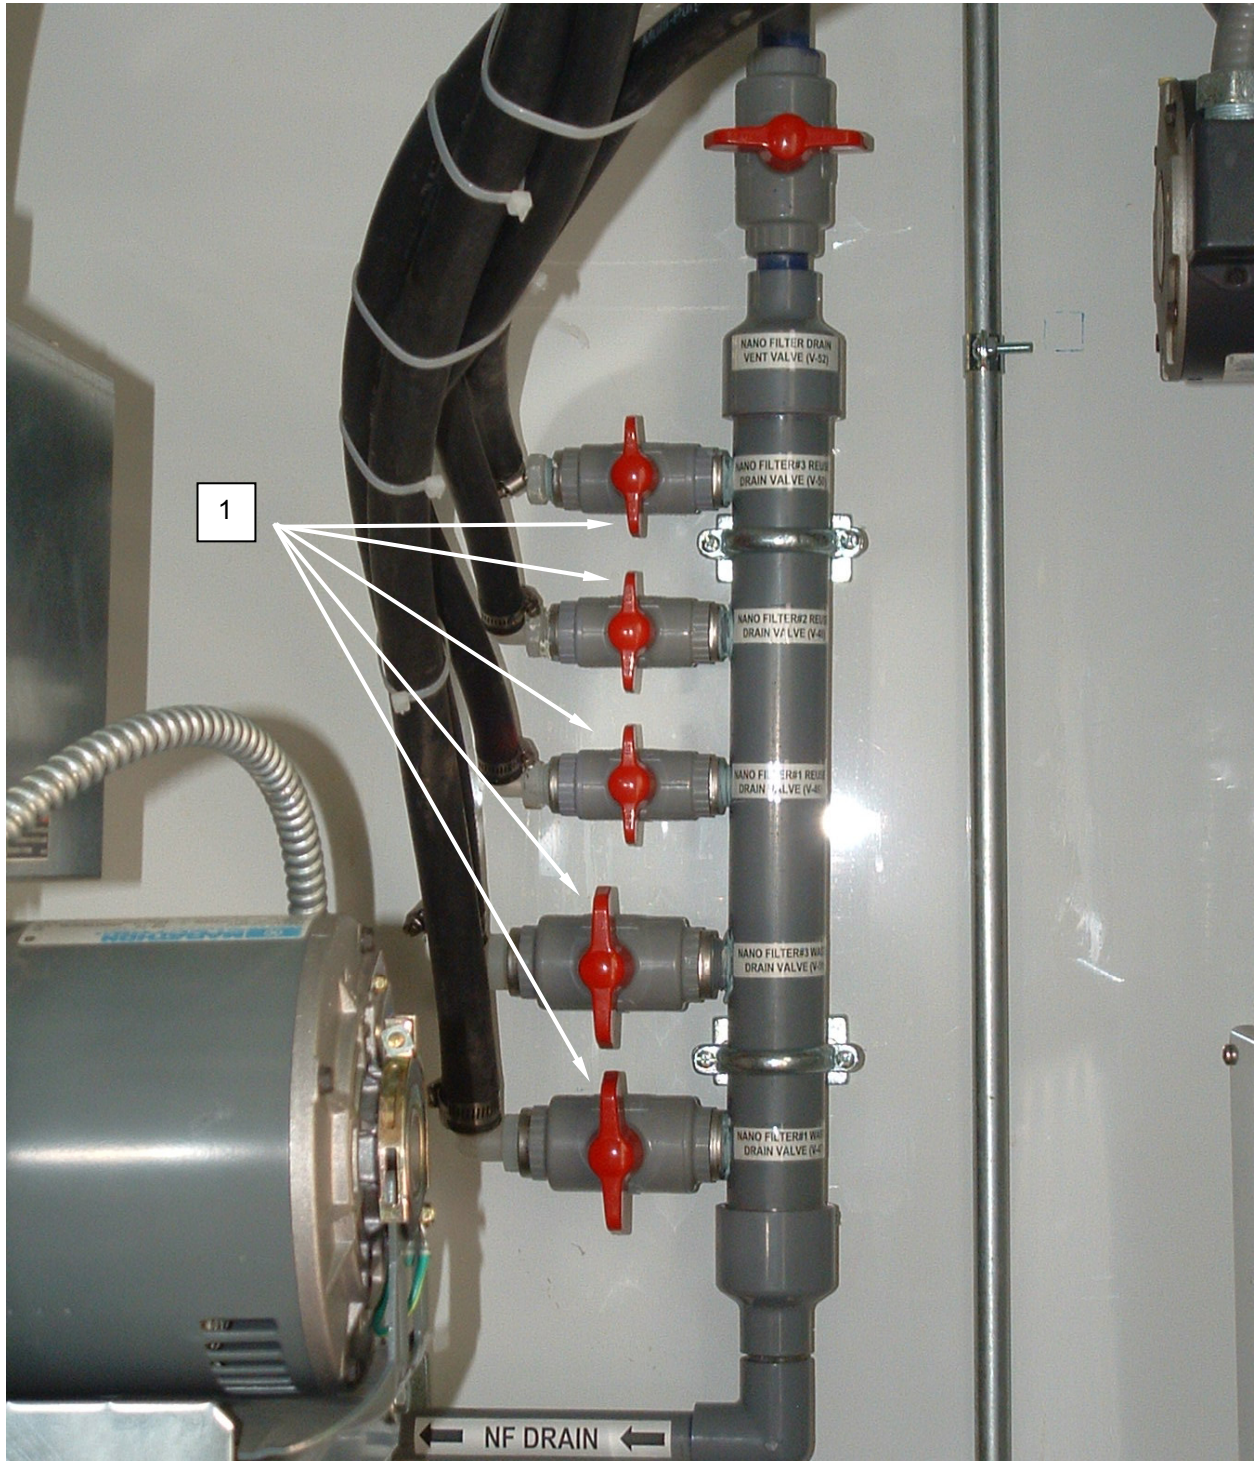

Figure 1. Replace Nanofilter Cartridges.
1. Open nanofilter drain valves (**Figure 1, Item 1**) and allow to drain approximately 15 minutes.